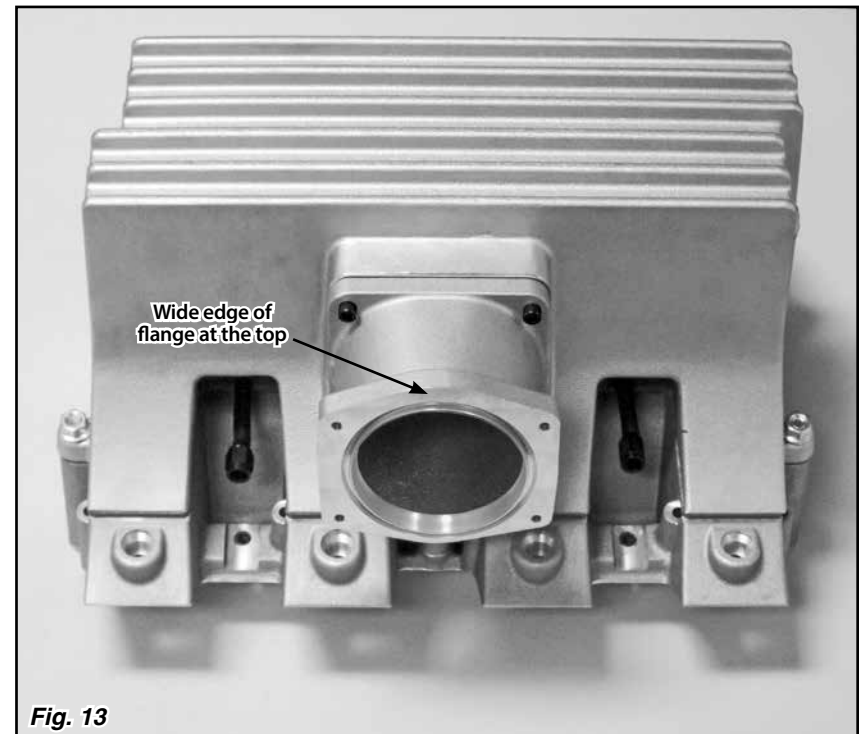

Fig. 13
Step 12: Note one edge of the throttle body side of the throttle body adapter flange is wider than the other edge. Install the throttle body adapter onto the upper manifold with the wider edge of the flange at the top. Tighten the socket head bolts using a crisscross pattern in two steps, 7 lb.-ft. for the first step and 12-15 lb.-ft. for the second step. **Fig. 13**